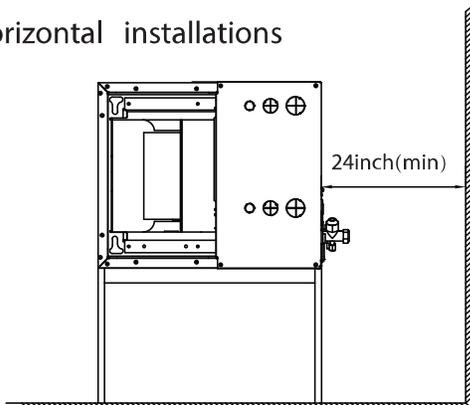

Fig. 6 —Horizontal Installations
- Allow sufficient space for airflow and unit servicing. See Fig. 6 — on page 6 for the minimum required distances between the unit and the walls or ceilings.
The air supply and return may be handled in one of several ways; whichever situation is best suited for the installation (See Fig. 6 — on page 6). A large number of issues encountered with split-system installations can be linked to improperly designed or installed duct systems. It is therefore very important that the duct system be properly designed and installed.